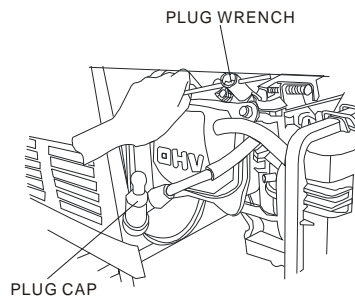

Figure 19- Removing the spark plug
2. Unscrew the spark plug from the generator using the spark plug wrench included with this product (see figure 19).